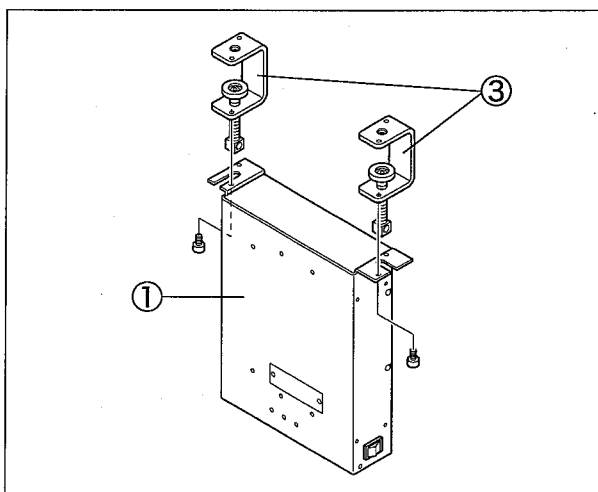

Fig. 2-5
2. Install it onto the bottom of the table with clamps (screws under the table), so that the control box can be removed easily. (Fig. 2-5, 2-7)